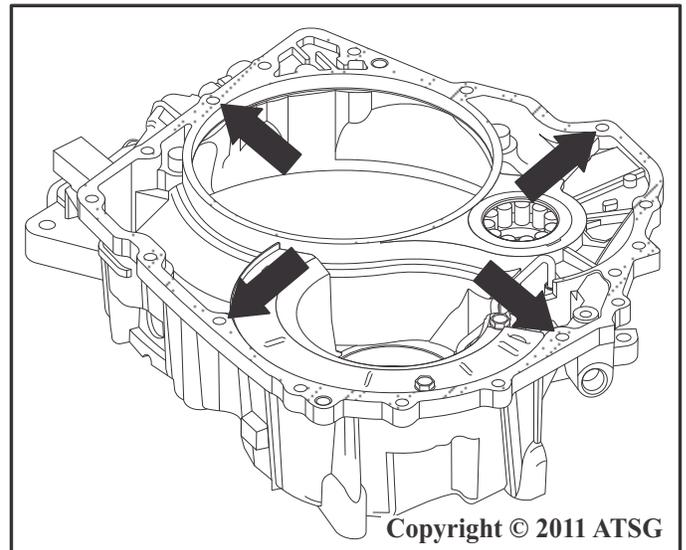

Figure 242
76. Apply a 3 mm (1/8 in.) bead of sealant GM P/N 89020326 or equivalent to the inside of the bolt holes on the mating surface of the torque converter housing as shown in Figure 242.